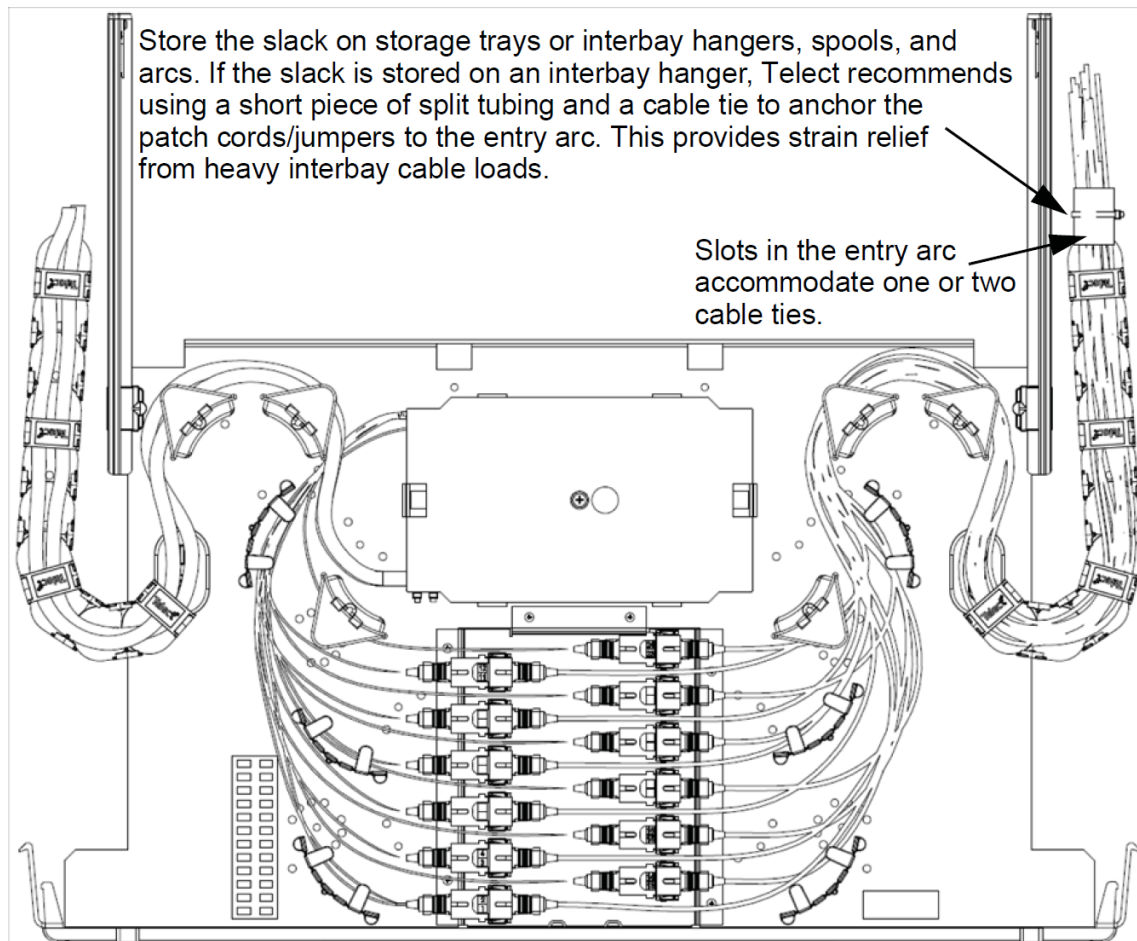

Figure 41 - Routing the Fiber
- f. Route the fiber, as shown in Figure 41.